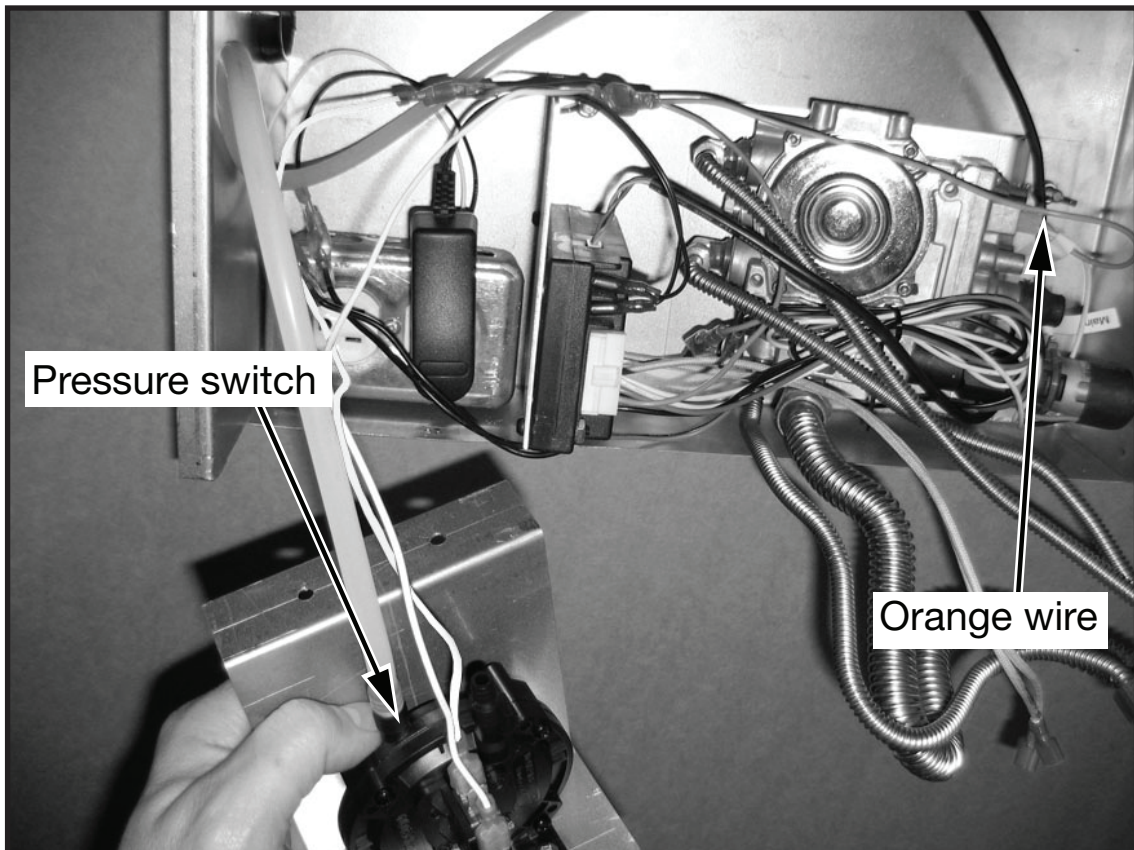

Figure 13: Pressure switch and orange wire.
2. Connect the pressure switch jumper wires to the orange wire (Figure 13).